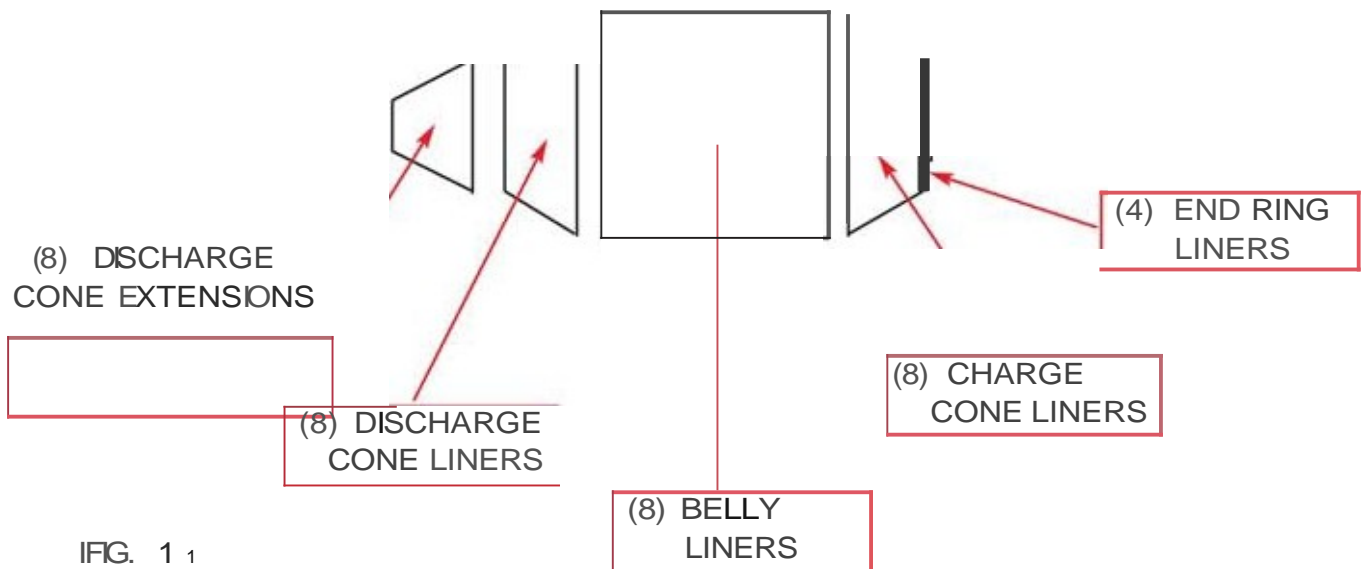

FIG. 1
Carefully unpack the liner sections and inspect for any damages. Take an inventory of all of the liner sections and insure liner is complete. (Most models will require (8) each of each drum section except for the end-ring liners which require only (4) sections - (SEE FIG. 1).
After one of each of the charge, belly, discharge and extension cone liners have been linearly aligned (FIG. 1), begin the radial installation of the end ring liners. The perimeter of each liner section should be sealed with RTV silicon before completely securing all of the weld plates (FIG. 1A). C-clamps may be used to secure the liner sections before welding.